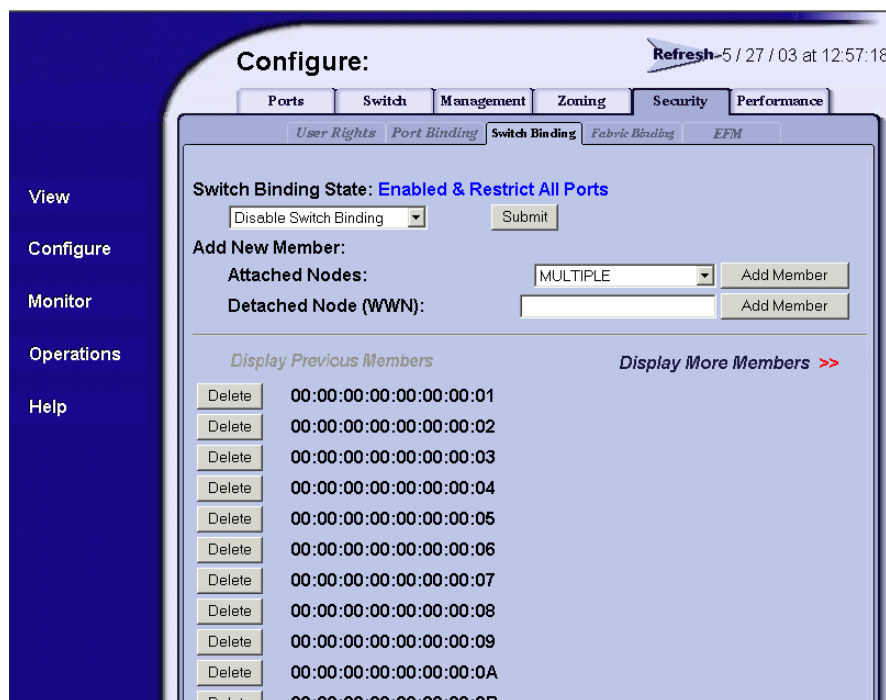

Figure 16: Configuring Switch Binding
2. Select the **Security** tab and the **Switch Binding** tab. The **Switch Binding** tab view displays (Figure 16).